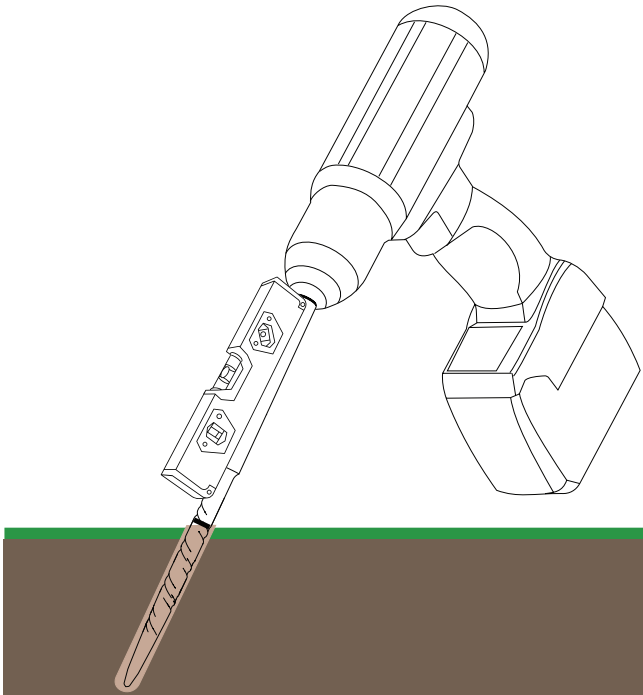

Figure 5 Drill bit and level
1. Mark the required drilling depth on the masonry drill bit (Figure 5).
2. To ensure the pilot hole is drilled correctly, use a level on the side of the drill bit to set the predetermined installation angle. (Figure 5).